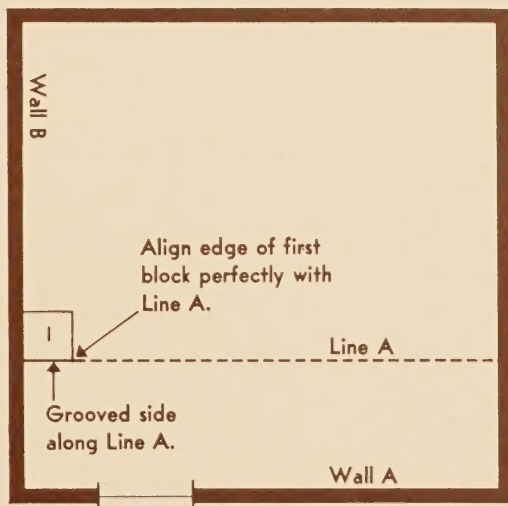

FIG. 3
Begin laying blocks in the portion of the room shown in Figs. 3 and 4. Lay blocks as close as possible to all walls to help prevent slip-page.
Step 1: (See Fig. 3) Lay Block No. 1 in the corner formed by Line A and Wall B, with a grooved side against the working line and one tongue against Wall B. This is the key block. Make sure it coincides exactly with Line A.